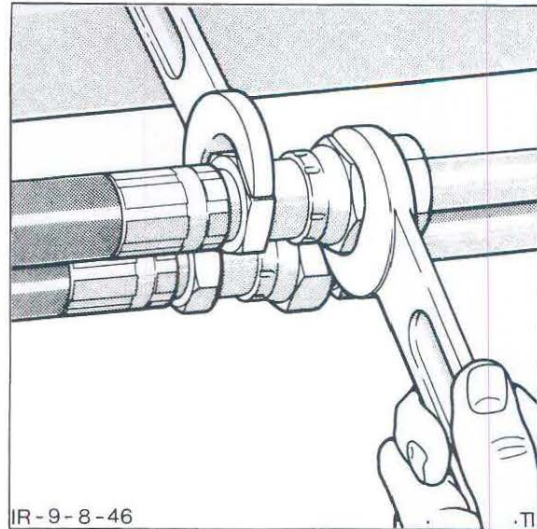

Figure 26
- Using two suitable wrenches, tighten the fitting to the specified torque, Figure 26. See "Specifications" – Chapter 11.